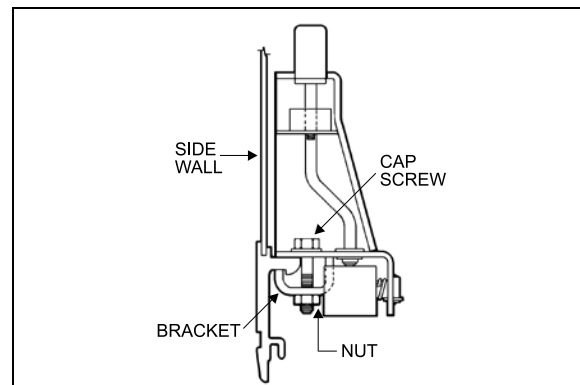

FIGURE 45: ARMREST
4. Remove 2 cap screws, nuts, and washers holding seat frame to side wall and retain the 2 holding brackets. See figure 45.